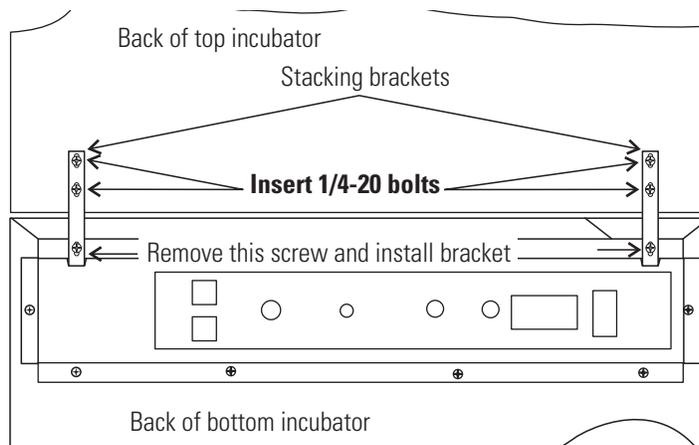

Figure 1-8. Two Screws From Control Panel Back
6. Remove and retain the two screws from the back of the control panel on the bottom unit as identified in Figure 1-8.
7. Secure the stacking brackets to the back of the bottom unit, using the retained screws (Figure 1-8). Be sure to align the brackets with the mounting holes on the back of the upper incubator. Secure the brackets to the upper unit with the $\frac{1}{4}$ -20 bolts provided in the stacking kit. A $\frac{7}{16}$ " wrench or socket is required for the bolts.